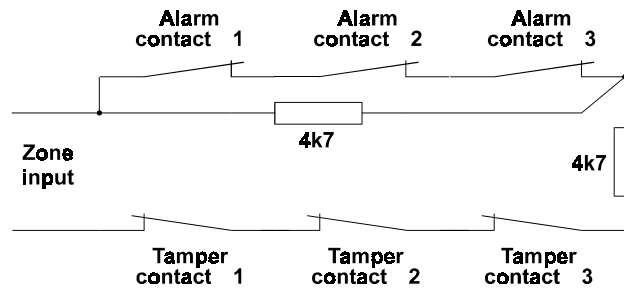

Figure 2. *Joint connection of the alarm & tamper*
**Dual loop:** The alarm and tamper are placed together in one zone. The zone has two end-loop resistors (4.7 kOhm) to differentiate between alarm and tamper. Figure 2 shows how they are connected. Program the 'zones' menu as 'Dual'.